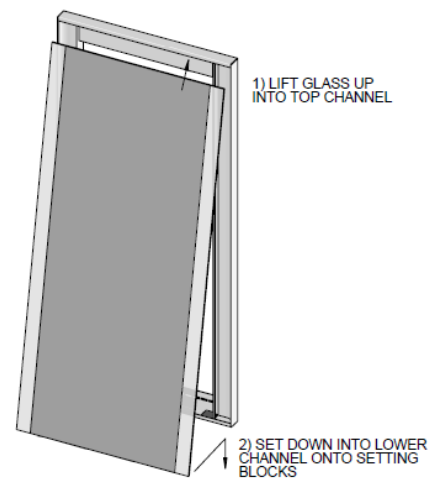

Figure 9
6. Using vacuum glass cups, install the mirror by lifting it up into the top channel, then down into the lower channel and onto the setting blocks. **See Figure 9**